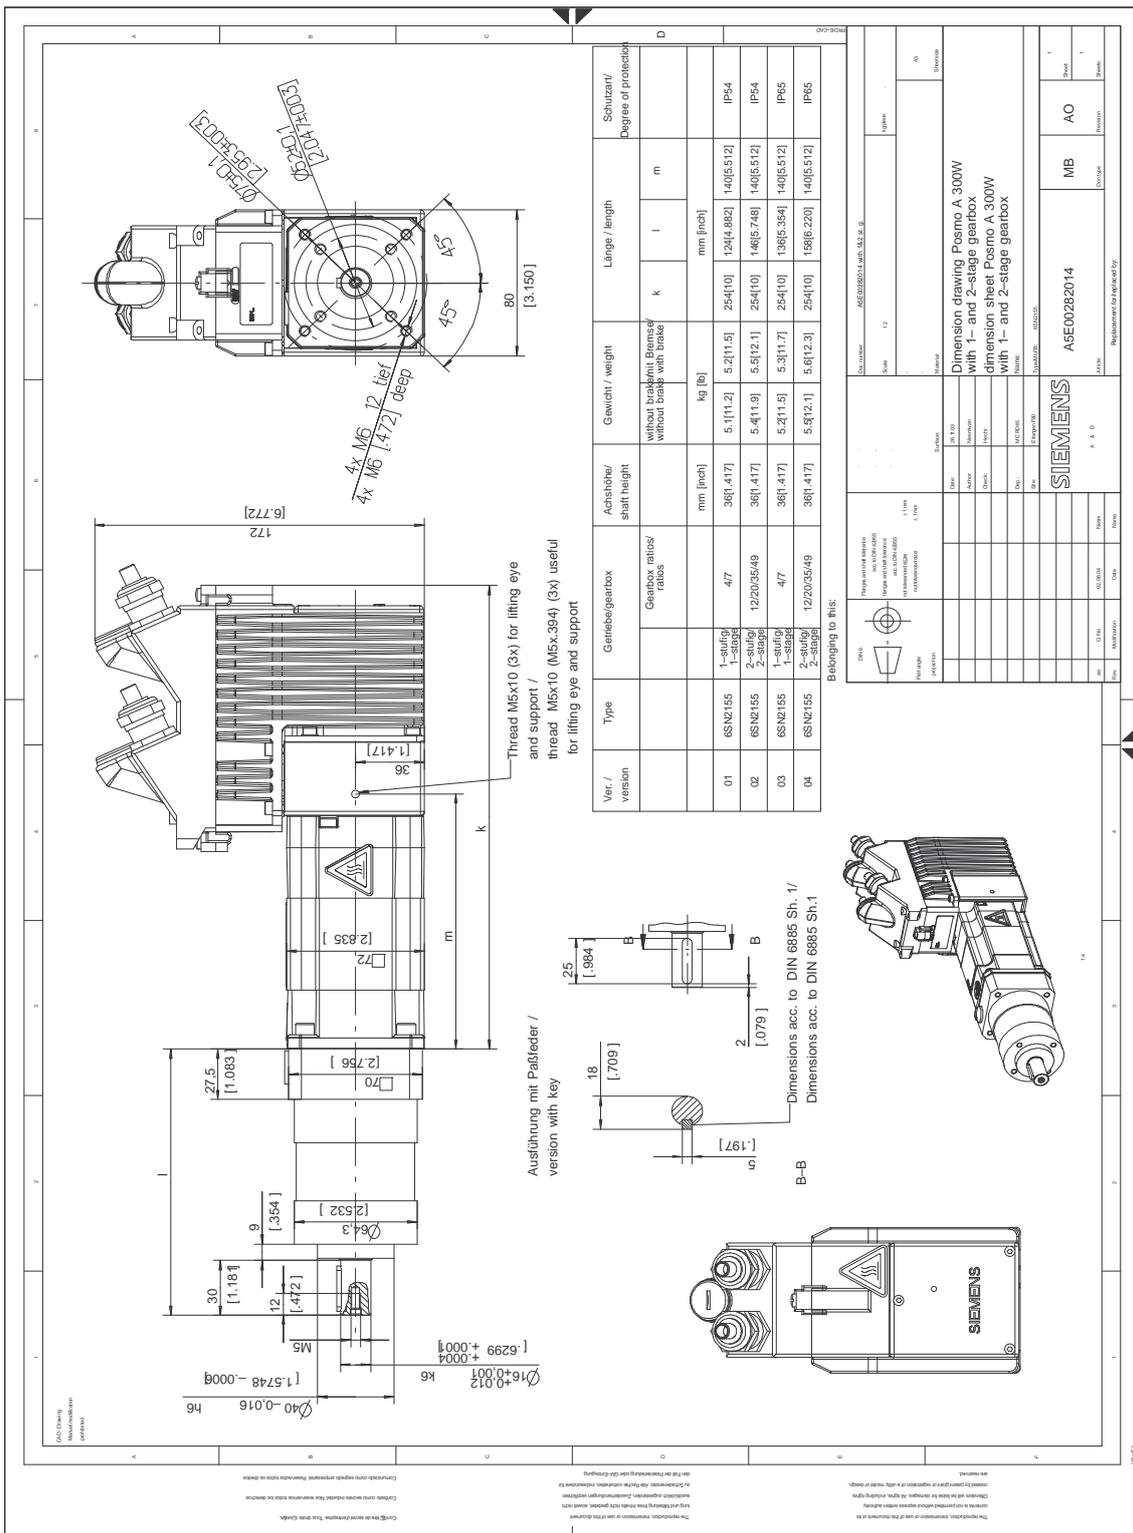

Fig. C-5 Dimension drawing: SIMODRIVE POSMO A – 300W with planetary gearbox (1–stage, 2–stage)
- Motor with planet. gearb. (1–stage, 2–stage) —> refer to Fig. C-5